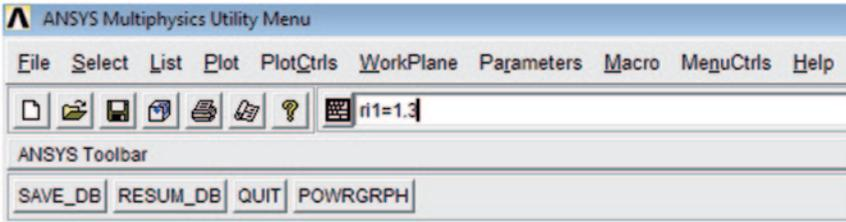

Fig. 9.8 Defining a parameter through the *Input Field*
- Using the *Input Field*, write the user-defined parameter name followed by the equal sign (=) and the value assigned to the parameter (Fig. 9.8). Finish by the hitting **Enter** key on the keyboard.